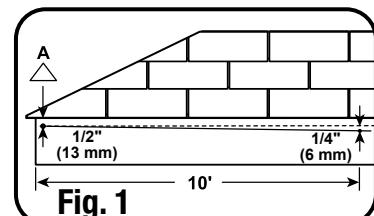

Fig. 1
Snap level chalk line 1/2" from top of fascia. Starting at high point (A), snap chalk guide line, sloping down 1/4" for every 10' linear to downspout. (Fig. 1)